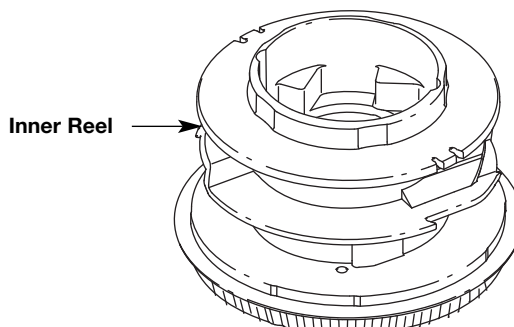

Fig. 20
4. If rewinding with new line, remove any existing line from the inner reel before cleaning. Remove any debris or grass from the knob, spring, inner reel and foam seal. Wash the inner reel with warm soapy water (Fig. 20).